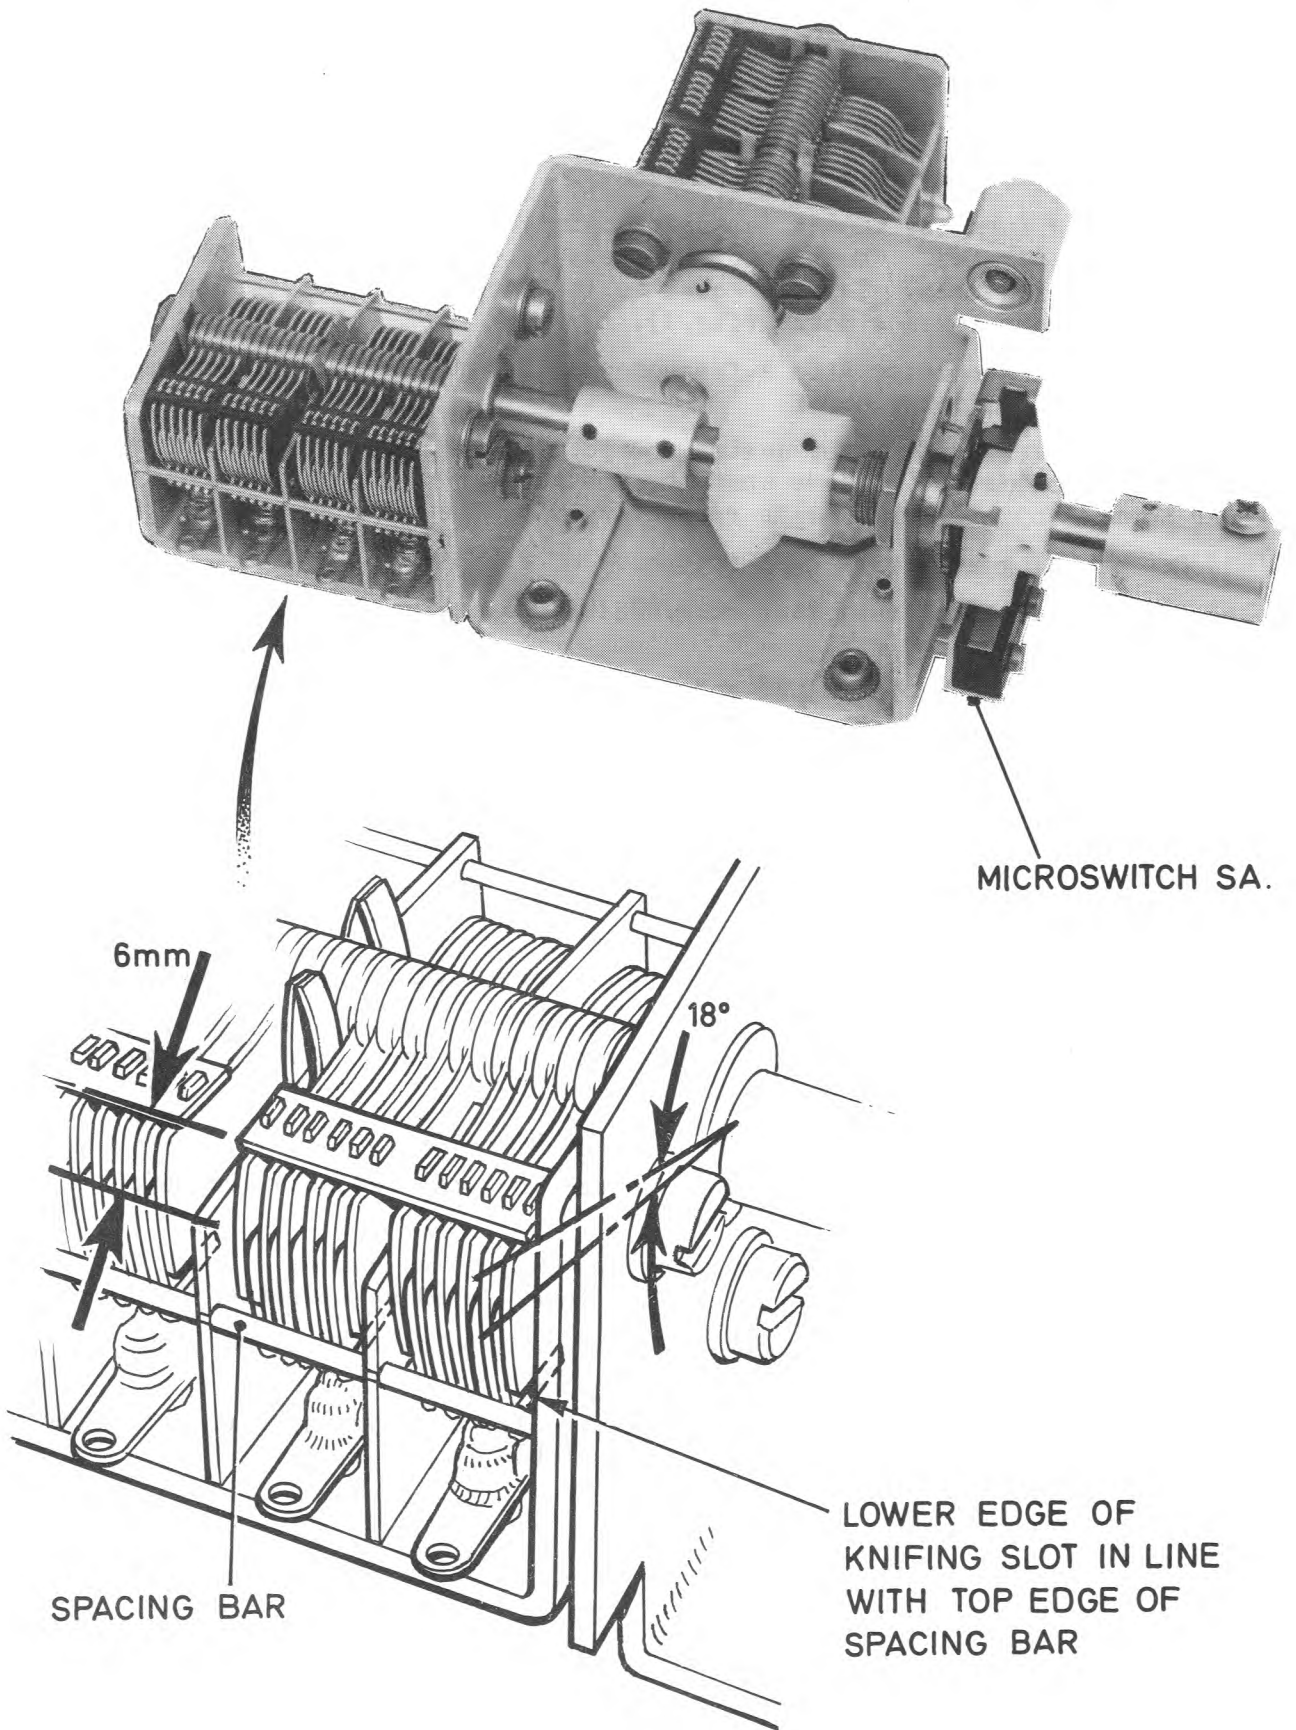

Fig.1 Tuning capacitor setting : 18-degree point
28. (41) Sweep the frequency of signal generator A from 2 to 6MHz. Check that the attenuation over the band, with respect to the output level noted at operation (39), is not less than 27dB.
- (42) Set the MHz switch to 1.
- (43) Set the tuning capacitor (C22/C23) control-spindle fully-counter-clockwise (capacitor vanes fully enmeshed).
- (44) Carefully turn the tuning capacitor spindle clockwise until the micro-switch, SA, operates. Check that the variable capacitor is out of mesh by exactly 6 millimetres. This is equal to 18 degrees of rotation from the fully enmeshed reference point (fig.1).
- (45) Set signal generator A to a frequency of 0.98MHz and set the output level to 100 millivolts e.m.f.
- (46) Tune the cores of T5 for maximum output, as indicated on the h.f. electronic voltmeter. Ensure that the top and bottom cores of T5 are near to the top and bottom ends respectively of the windings.
- (47) Set signal generator A to a frequency of 2.0MHz.
- (48) Adjust the tuning capacitor (C22/C23) for a maximum indication on the h.f. electronic voltmeter.
- (49) Tune trimmer capacitors C28 and C38 for a maximum output indication.
- (50) Repeat operations (44) to (49) inclusive until no further increase in output can be obtained.
- (51) Set the tuning capacitor fully counter-clockwise.
- (52) Set signal generator A to a frequency of 1.0MHz. Note the output level indicated on the h.f. electronic voltmeter.
- (53) Set the tuning capacitor for a maximum output indication. Check that the output level indicated is within 3dB of the level noted at operation (52)
- (54) Set the frequency of signal generator A to 1MHz plus 125kHz and, in turn, to 1MHz minus 125kHz. Check that the attenuation, in each case, is not less than 16dB relative to the level at 1MHz.